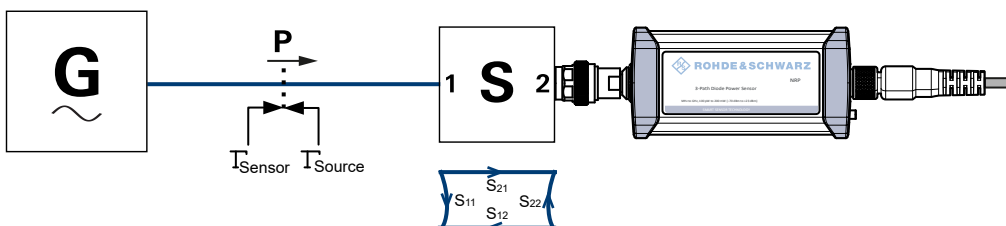

Figure 8-7: Correction of interactions between the power sensor, the signal source, and the S-parameter device
The interaction between the complex reflection coefficient Γ_{sensor} of the power sensor and the reflection of port 2 is expressed by s_{22} , see Figure 8-7. If the S-parameter correction is enabled, this interaction is always considered, regardless whether gamma correction is performed or not.
- S-parameter device if the S-parameter correction is enabled, S11 in Figure 8-7.